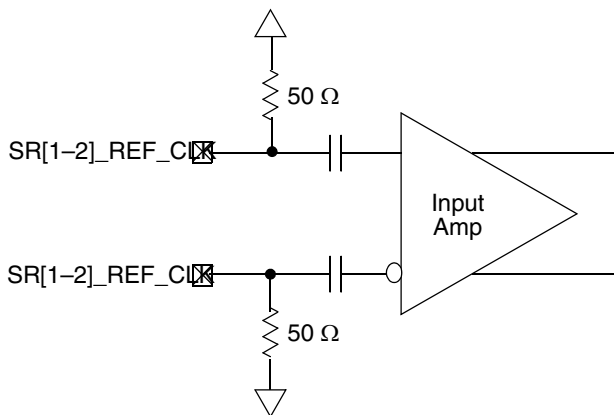

Figure 5. Receiver of SerDes Reference Clocks
The SerDes reference clock inputs are applied to an internal PLL whose output creates the clock used by the corresponding SerDes lanes. The SerDes reference clock inputs are $SR1_REF_CLK/\overline{SR1_REF_CLK}$ or $SR2_REF_CLK/\overline{SR2_REF_CLK}$. Figure 5 shows a receiver reference diagram of the SerDes reference clocks.
- The $SR[1-2]_{REF_CLK}$ and $\overline{SR[1-2]_{REF_CLK}}$ are internally AC-coupled differential inputs as shown in Figure 5. Each differential clock input ($SR[1-2]_{REF_CLK}$ or $\overline{SR[1-2]_{REF_CLK}}$) has on-chip 50- Ω termination to GND_{SX} followed by on-chip AC-coupling.